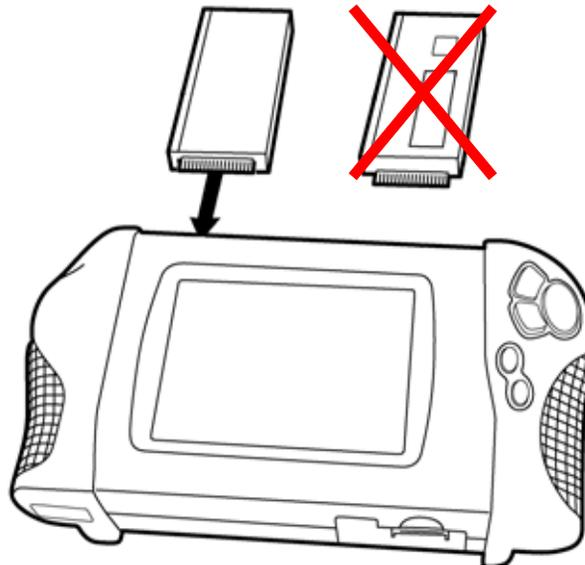

Figure 6-2 Scanner™ Plug-in installation
4. Insert the Scanner™ Plug-in into its slot (Figure 6-2).